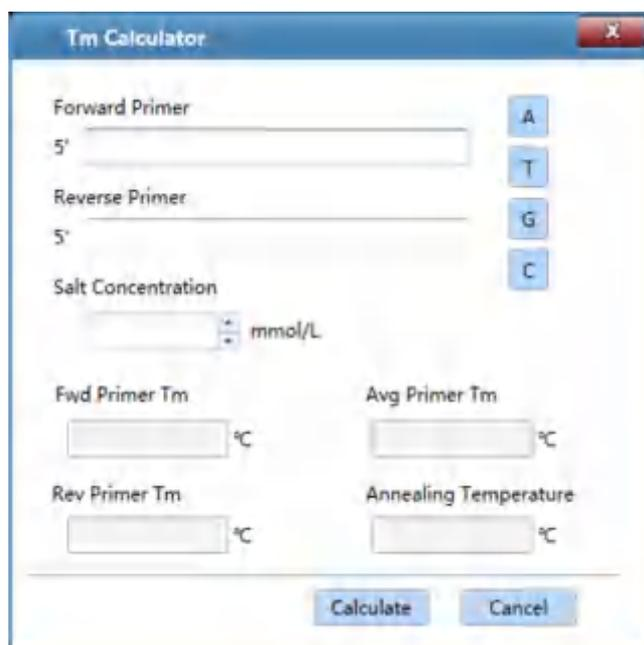

Figure D-2.3 Tool submenu - T_m Calculator interface
2. **T_m Calculator:** Click **T_m Calculator** option in **Tool** submenu and the application software will automatically pop up the T_m Calculator interface, as shown in figure D-2.3.